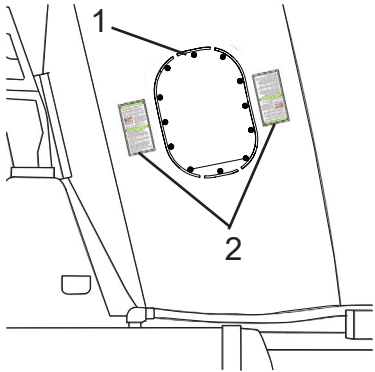

Figure 2
7. Position the drum hatch (Figure 2, Item 1) so the hatch is on the driver's side to perform service and maintenance.
8. Make sure that the mixer drum warning signs (Figure 2, Item 2) are clean, readable, and properly positioned. Replace any damaged or unreadable signs immediately.